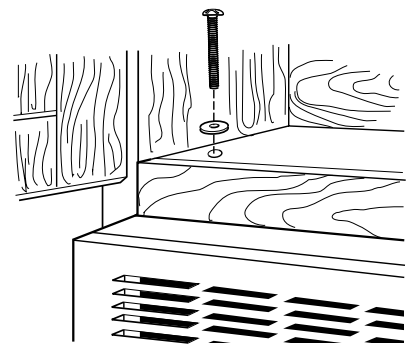

Figure 34
4. Place washers over two 1/4"x3" bolts. Then insert a bolt down through each hole in the upper cabinet bottom. Tighten the bolts until the gap between the upper cabinet and microwave oven is closed. See Figure 34.